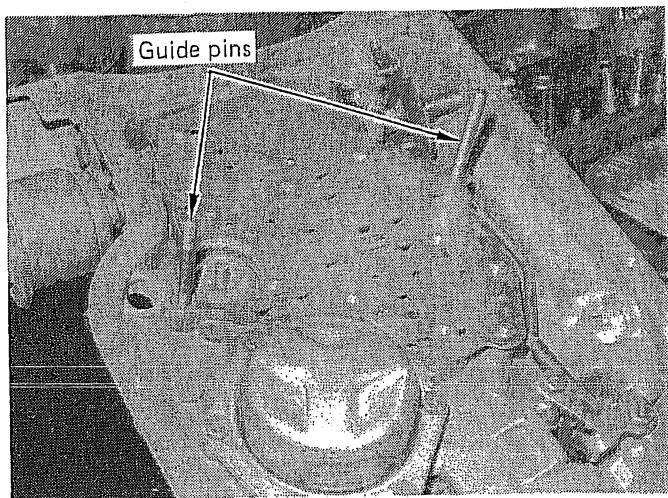

FIGURE 54
**STEP 27.** Position upper valve body gasket (larger of the two valve body gaskets) against the case. Install the separator plate from the kit. Install lower valve body gasket into position. Install your two guide pins into two valve body holes to hold plate and gaskets in alignment. (See Fig. 54)